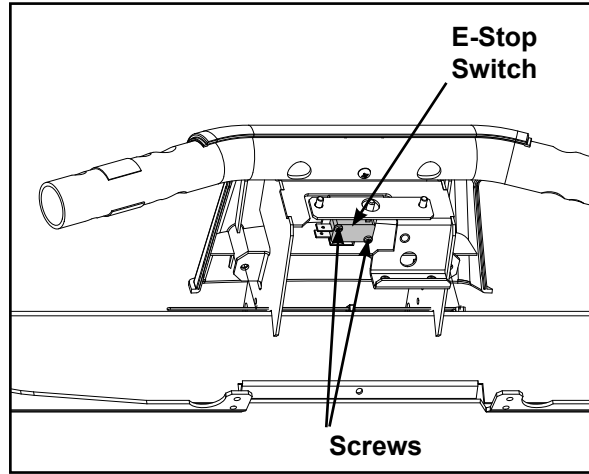

Figure 32
- A. Using a Phillips screwdriver, remove the two screws securing the e-stop switch. See Figure 32.
- A. Using a Phillips screwdriver, install the two screws securing the e-stop switch. See Figure 32.